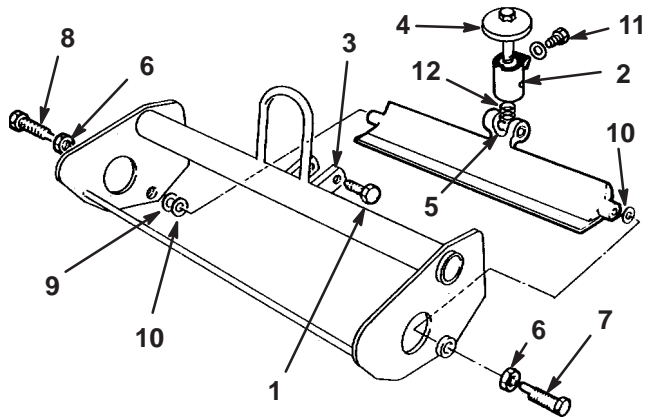

Figure 12
1. Remove the spring arm retaining capscrew and washer from the pivot assembly. Loosen the pivot screws securing the bedknife pivot assembly to the reel frame supports (Fig. 12).
2. Rotate the adjustment knob and pivot assembly clockwise (left-hand thread) until it is unthreaded from the bedbar pivot (Fig. 12).
3. Loosen the jam nuts retaining the right and left bedbar pivot bolts. Remove the pivot bolts (Fig. 12).